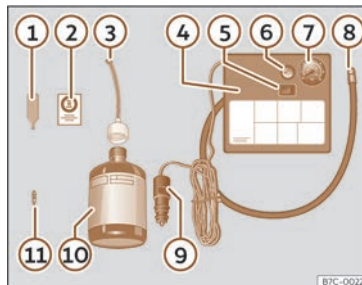

Fig. 237 Standard display: contents of the anti-puncture kit.
The anti-puncture kit is located underneath the floor covering in the luggage compartment. Includes the following components >>> **Fig. 237:**
- Unscrew the tyre valve cap and insert. Use the device >>> **Fig. 237** ① to remove the valve cap. Place it on a clean surface.
- Shake the tyre sealant bottle vigorously >>> **Fig. 237** ⑩.
- Screw the tyre inflation hose >>> **Fig. 237** ③ into the tyre sealant bottle. The bottle's seal will break automatically.
- Remove the filler cap >>> **Fig. 237 ③** and screw the open end of the tube into the tyre valve.
- Replace the howitzer with the device >>> **Fig. 237 ①** onto the tyre valve.
- Screw the tyre inflation tube of the compressor >>> **Fig. 237 ⑧** on the tyre valve.
- Check that the air evacuation screw is closed >>> **Fig. 237 ⑥**.
- Attach the connector >>> **Fig. 237 ⑨** to the vehicle's 12 volt power outlet >>> page 228.
- Switch on the air compressor with ON/OFF switch >>> **Fig. 237 ⑤**.
- Attach the sticker >>> **Fig. 237 ②** to the instrument panel display, within the driver's field of vision.
Screw in the inflator tube >>> **Fig. 237 ⑧** again and check the pressure on the gauge **⑦**.